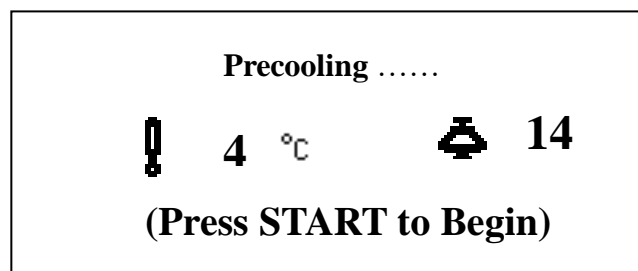

Figure 7-5 Pre-cooling interface
- The pre-cooling screen is shown as figure 7-5.
- During the pre-cooling operation, the Figure 7-5 displays the operating temperature.
- During the pre-cooling process, the instant rotating speed can be checked by pressing the  button. The value will display at left corner of the Screen and disappears 3 seconds later. And the instrument will return to the state of Figure 7-5.